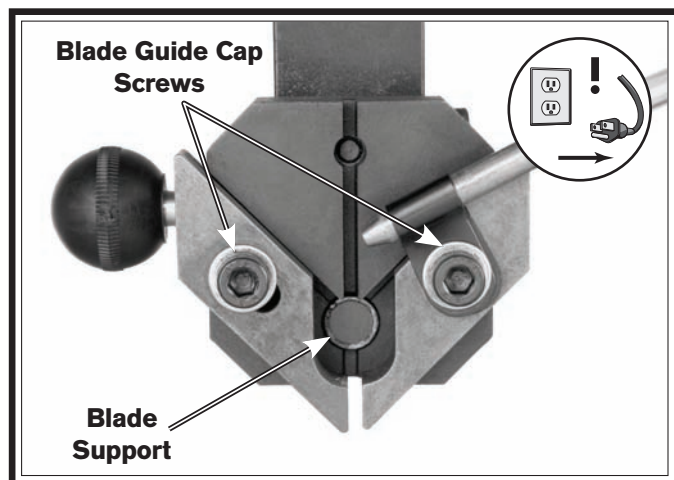

Figure 21. Blade guide assembly (upper assembly shown without blade for clarity).
6. Slide the blade support (see **Figure 21**) up to, but not touching, the back of the blade, then re-tighten the blade support cap screw.
8. Use a 5mm hex wrench to loosen the blade guide cap screws (see **Figure 21**).